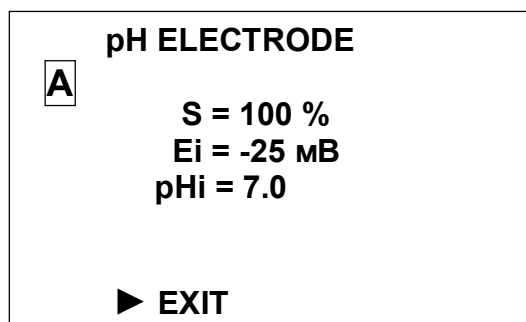

Fig. 2.20
- 16 Press "**menu**/**enter**" button and the display shown in Fig. 2.20 shall come up.